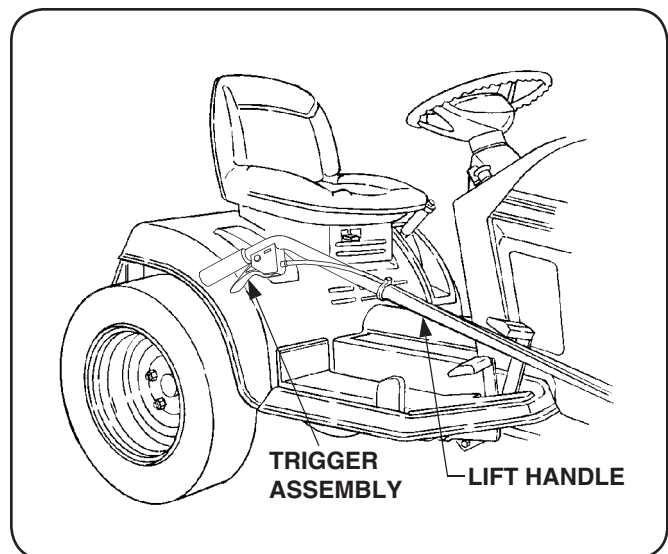

Figure 6-5
2. Grasp the lift handle (C) and squeeze the latch release trigger to lower the snow thrower to the ground (Refer to Figure 6-5).
- The lift handle is used to raise and lower the snow thrower. To raise the snow thrower, pull back and down on the lift handle until the lift index rod fully engages the latch slot of the lift latch bracket. To lower the snow thrower, push slightly downward on the lift handle, then pull the trigger. With the trigger pulled, lower the snow thrower slowly until it contacts the ground. Refer to Figure 6-5.